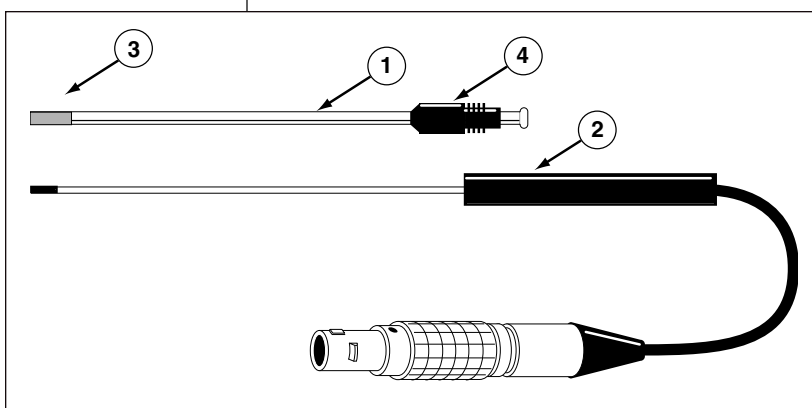

Fig. 17—Basic probe structure
Figure 17 shows the principal components of an ISO-OXY-2. A gas permeable membrane ① is cemented to the tip of the outer stainless steel sleeve ②. The interior of the probe is a slender wand ③ containing the platinum cathode and silver counter/reference electrode inside the sleeve. The wand is permanently mounted in the probe's plastic handle ④. After electrolyte has been deposited inside the sleeve, the wand is slowly inserted into the sleeve and secured by screwing the